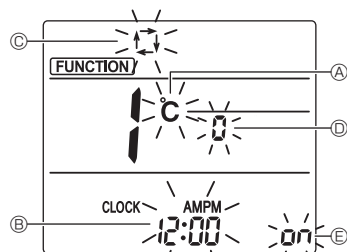

Fig. 4-8
- Check that function No. "1" is displayed, and then press the **SET** button ③.
- The Screen display setting screen will be displayed. (Fig. 4-8)
- Press the **SEND** button ④ to change the function No.
#### 4.9.2. Changing the temperature unit (Fig. 4-8 A)
#### 4.9.3. Changing the time display (Fig. 4-8 B)
#### 4.9.4. Changing the AUTO mode (Fig. 4-8 C)
#### 4.9.5. Changing the pair No. (Fig. 4-8 D)